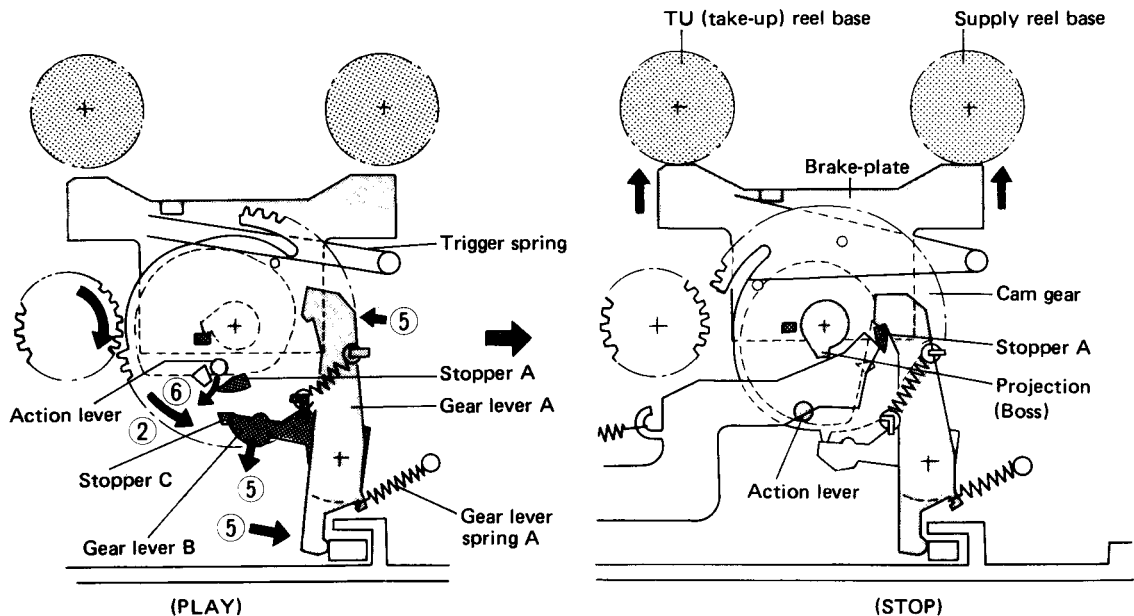
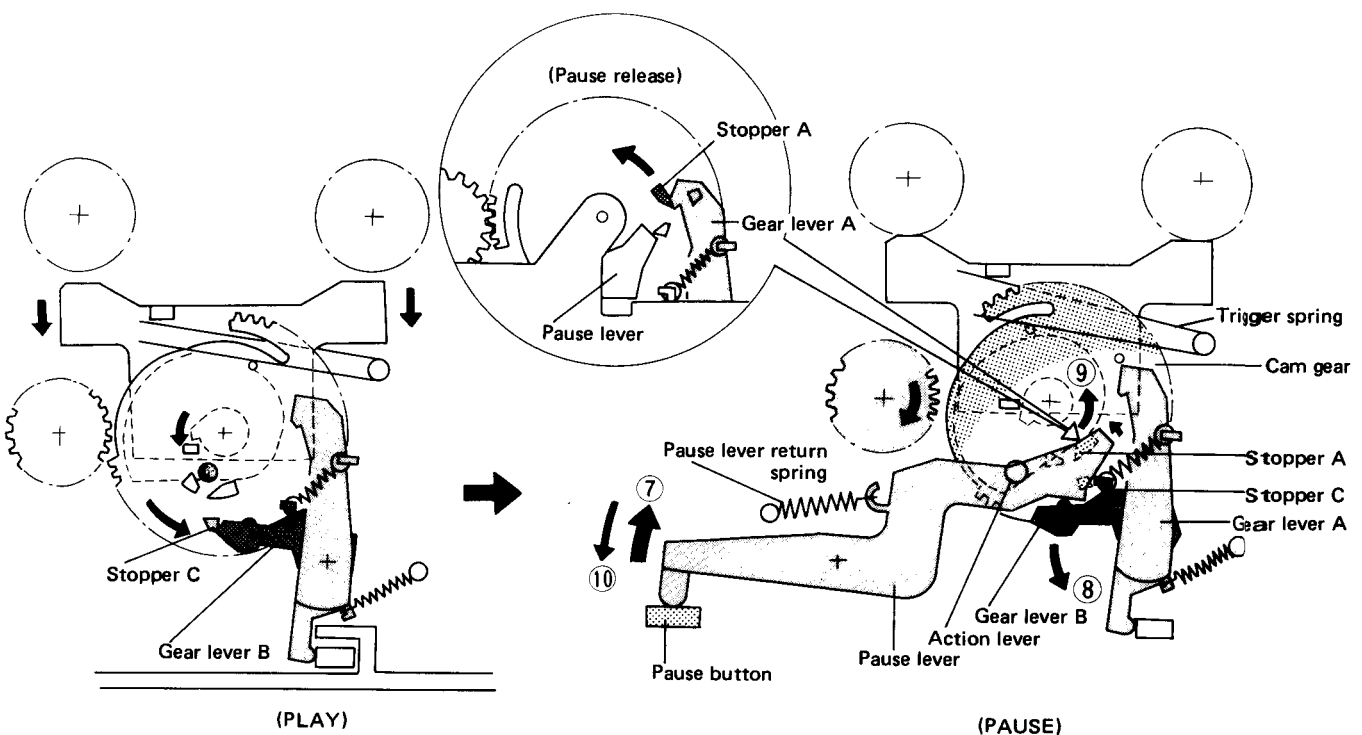

Fig. 13-4 PLAY → STOP operation
Fig. 13-5 PLAY → PAUSE operation
**PLAY – STOP Operation (Fig. 13-4)**
1. When the STOP button is pressed, the PLAY button lock is released, and the force of gear lever spring A returns gear lever A and B in the direction ⑤. This action separates cam gear stopper C from gear lever B.
2. As cam gear stopper C moves away from gear lever B, the compression force of the trigger spring rotates the cam gear in the direction ② until stopped by contact between cam gear stopper A and gear lever A. (See the right side of Fig. 13-4).
4. At the same time, the shape of the cam (machined on the upper surface of the cam gear) returns the action lever in the ⑥ direction, releasing the pressure contact the pinch roller and TU idler are placing on the reel base. The head base also returns to the STOP position, and the PLAY switch is thrown to the STOP side, completing entry into the STOP mode.
**PLAY – PAUSE Operation – PAUSE Release (Fig. 13-5)**
1. When the PAUSE button is pressed (unit in PLAY mode), the cam on the PAUSE button moves the pause lever in the ⑦ direction.
2. The pause lever pushes gear lever B up in the ⑧ direction, releasing the cam gear stopper C. The cam gear starts rotating in the ⑨ direction, stopping at the point cam gear stopper A makes contact with the pause lever tip.
5. Since the pause lever is moved in the ⑩ direction by the pause lever return spring, stopper A on the cam gear is released from the pause lever.
6. The force of the trigger spring moves the cam gear in the ⑨ direction and starts meshing the cam gear with the capstan gear. From this point, all operations are the same as in the PLAY mode, and tape travel is re-started.